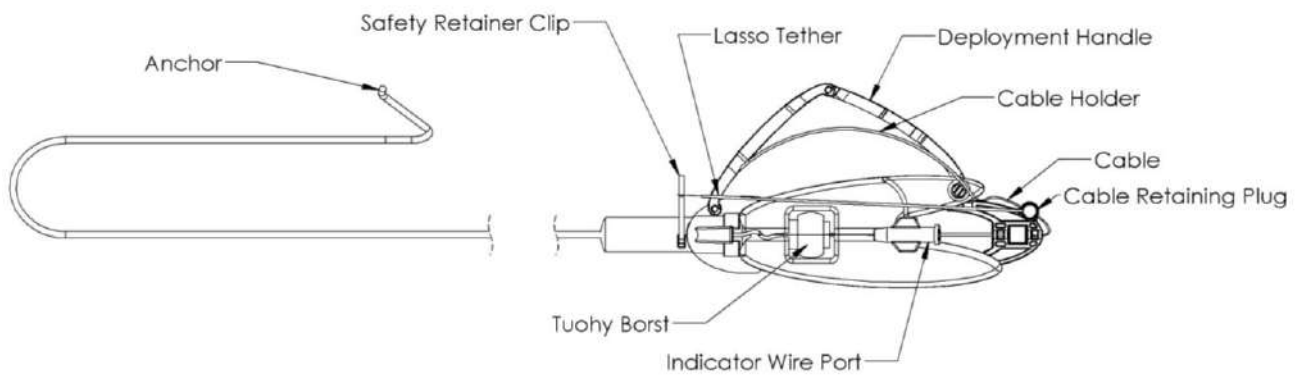

**Figure 4.** TracCath
- **TracCath** – a catheter (compatible with 0.018" O.D. guidewire) to facilitate consistent and accurate placement of the Anchors. The TracCath tracks within the Guide. It consists of both an Outer TracCath with a series of windows and an Inner TracCath with a single window. By aligning the windows of these two, the operator controls positioning of the Delivery Catheters and Anchor deployments. See **Figure 4**.